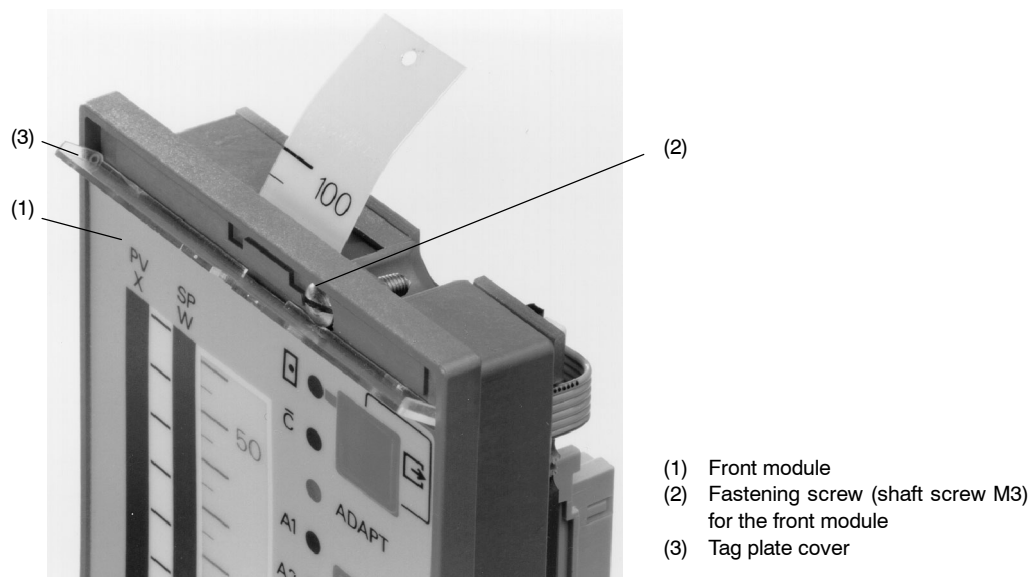

Figure 8-1 Front module with removed tag plate cover
- Loosen the fastening screw (captive) (see (2) fig. 8-1).